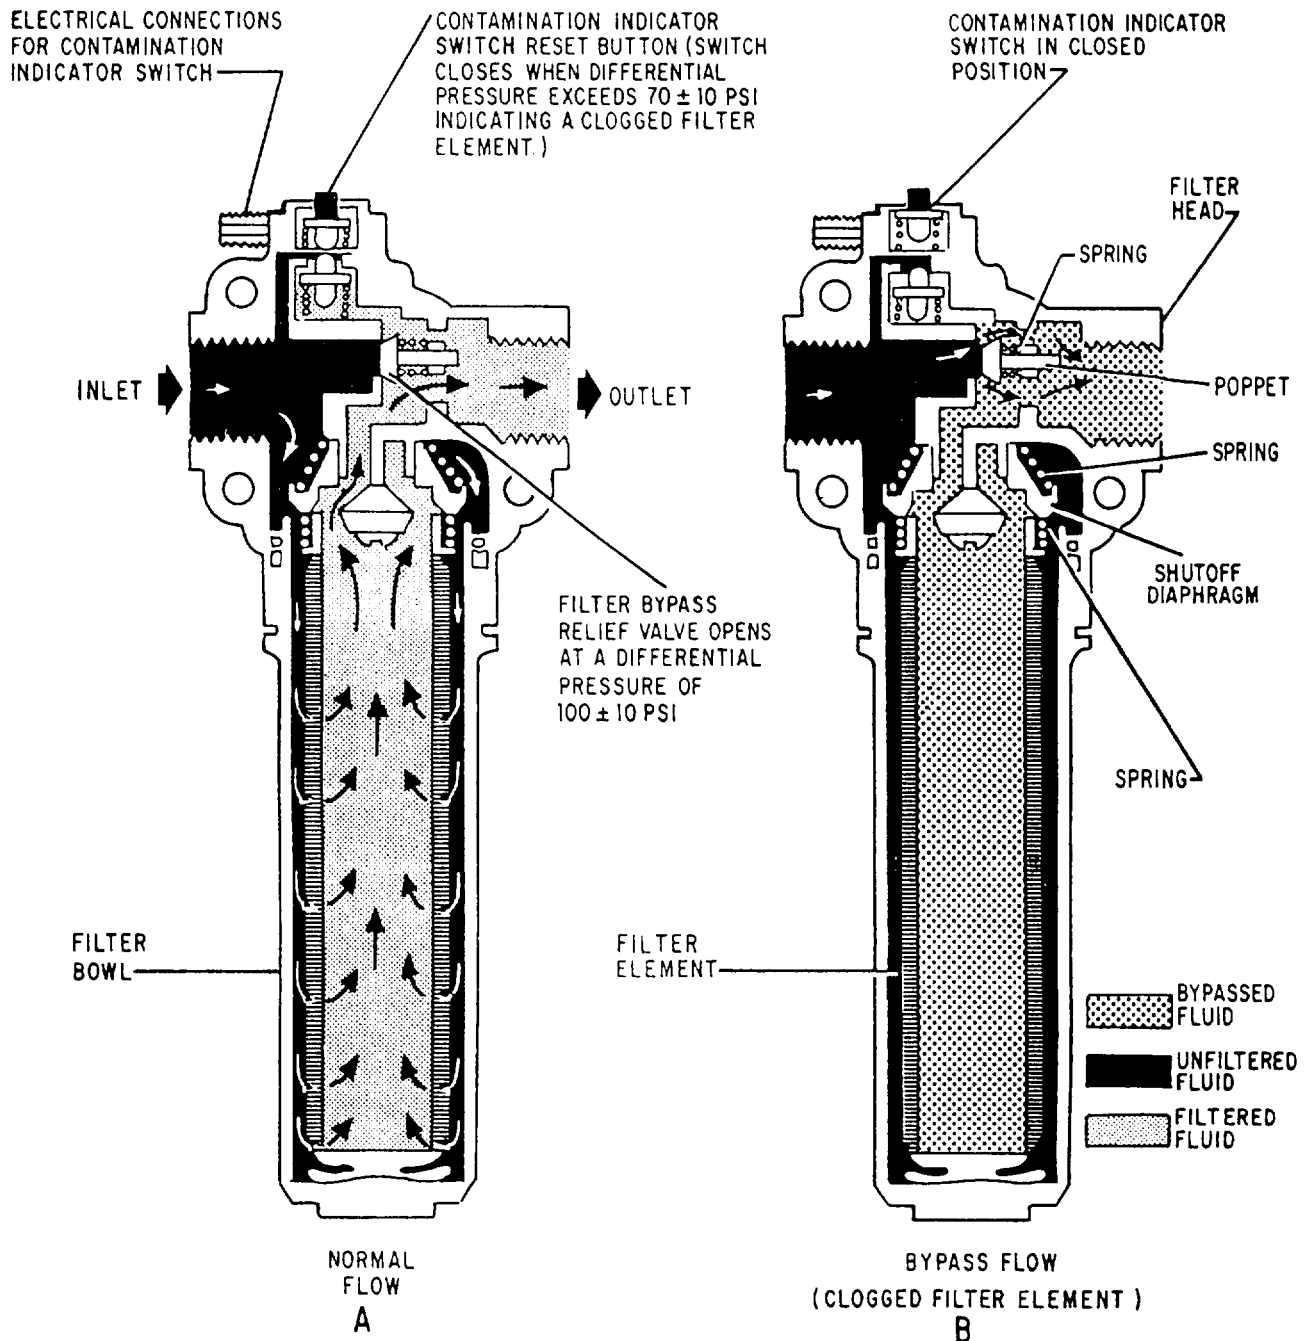

Figure 10-31. Full-flow, porous metal, bypass electrical-indicating hydraulic filter.
hydraulic filter (fig. 10-31) is used in some hydraulic systems. This filter uses one or a combination of the contamination indicators previously described.
Under normal conditions the fluid enters the inlet of the filter (view (A) of fig. 10-31), passes through the filter element, and leaves the filter through the outlet. As the fluid passes through the filter element, impurities are deposited on the outside of the element. As the deposits accumulate, they cause a differential pressure to build
If the filter is not properly serviced following the contamination indication and the equipment is kept in operation, the differential pressure continues to build. At 100 ÷ 10 psi, the bypass valve will open and allow the fluid to flow straight through, bypassing the filter element (view (B) of fig. 10-31). But on this filter the contamination indicator is to warn the operator that the filter element is clogged. The equipment can then be stopped before the bypass valve opens, thus preventing contaminated fluid from being passed through the hydraulic system.